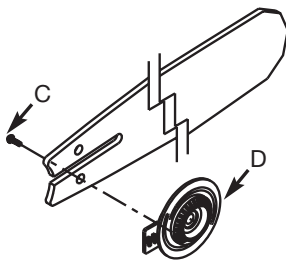

Fig. 19
3. Screw (C) the tension plate (D) on the bar (Fig. 19).